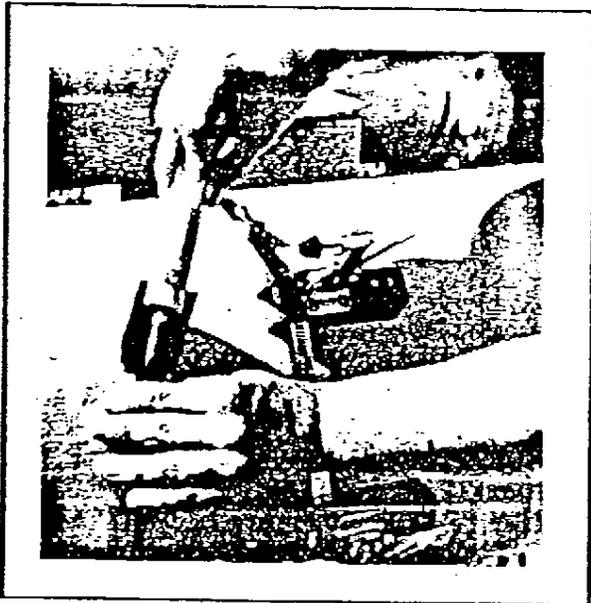

Figure 5-3
3. Apply a heavy coat of Polysonics' Ultrasonic Coupling Compound to each transducer face (Figure 5-3).
3. Apply a heavy coat of Polysonics' Ultrasonic Coupling Compound to the face of each transducer (Figure 5-3).